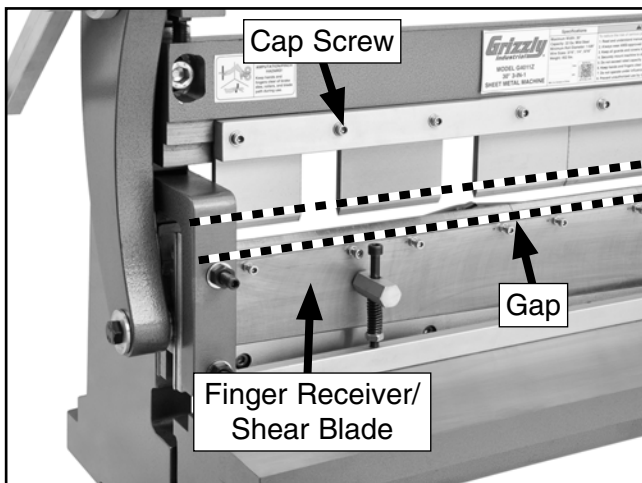

Figure 44. Example of finger receiver fully lowered.
1. Lower finger receiver/shear blade to its lowest point, leaving largest gap available between fingers and finger receiver (see **Figure 44**).